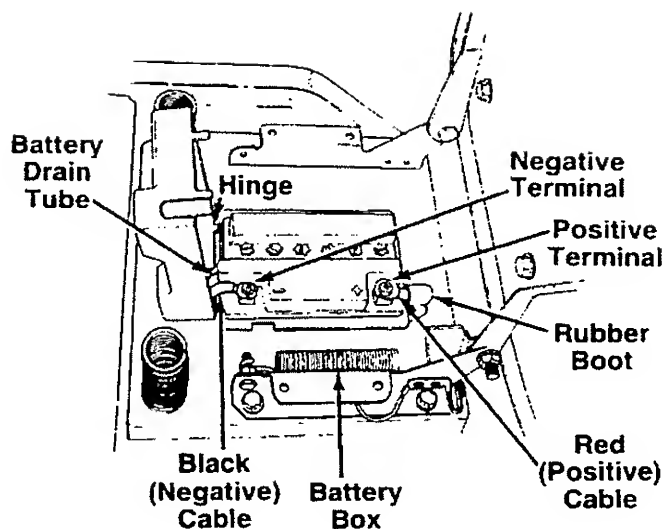

FIGURE 3.
1. Raise the seat bracket (on top of the fenders). Push any electrical wires out of the way so they are not disconnected when installing the battery box. Place the plastic battery box into the opening beneath the seat bracket. The hinge on the battery box goes toward the rear of the unit. Snap the battery box in place so the retaining edges on the box are beneath the fender. Make certain the battery cables are routed up along each side of the box. See figure 3.
2. Place the battery inside the battery box so that the positive terminal is toward the right side of the unit. See figure 3. Route the battery drain tube down beside the battery box.
3. Slide the hex nut (provided with battery hardware) into the positive (+) terminal. Place the positive (heavy red wire) cable on the positive terminal. Secure with bolt provided. See figure 3. Slide the rubber boot over the positive terminal.